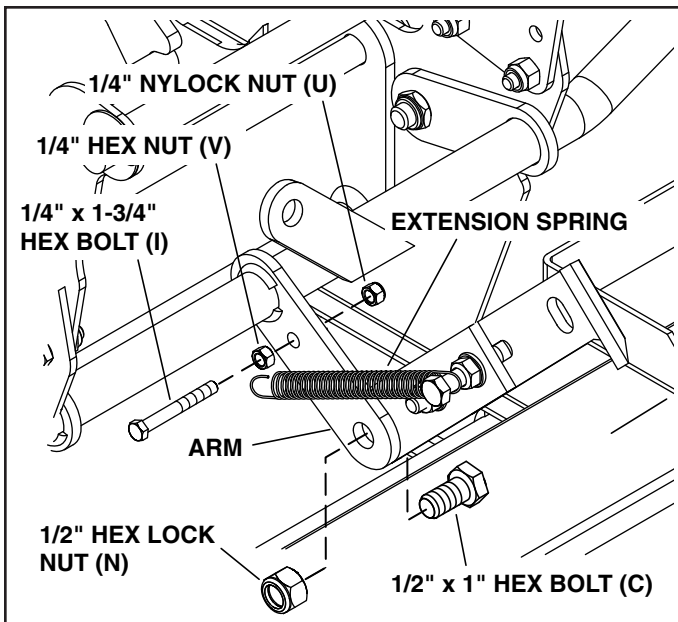

FIGURE 6
STEP 7: INSTALL EXTENSION SPRING (SEE FIGURE 6)
- Lightly apply grease to the end of the arm on the tilt anchor assembly and install the tilt bracket assembly to the arm using a 1/2" x 1" hex bolt (C) and 1/2" hex lock nut (N). **Tighten then loosen** the nut 1/4 turn, or until the tilt bracket assembly pivots freely.
- Install a 1/4" x 1-3/4" hex bolt (I) through the end of the extension spring on the tilt bracket assembly and then install a 1/4" hex nut (V) onto the bolt. Next, insert the end of the bolt into the hole in the arm of the tilt anchor assembly and install a 1/4" nylock nut (U) onto the bolt. **Tighten** the nuts to secure the bolt to the arm.